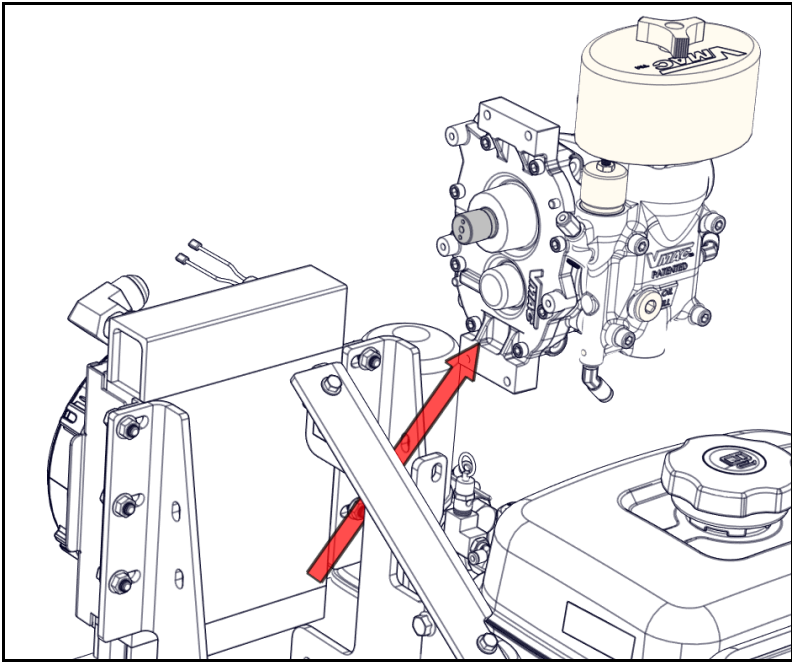

Figure 72 – Compressor removal
9) Lift the compressor back and up to remove it (Figure 72).